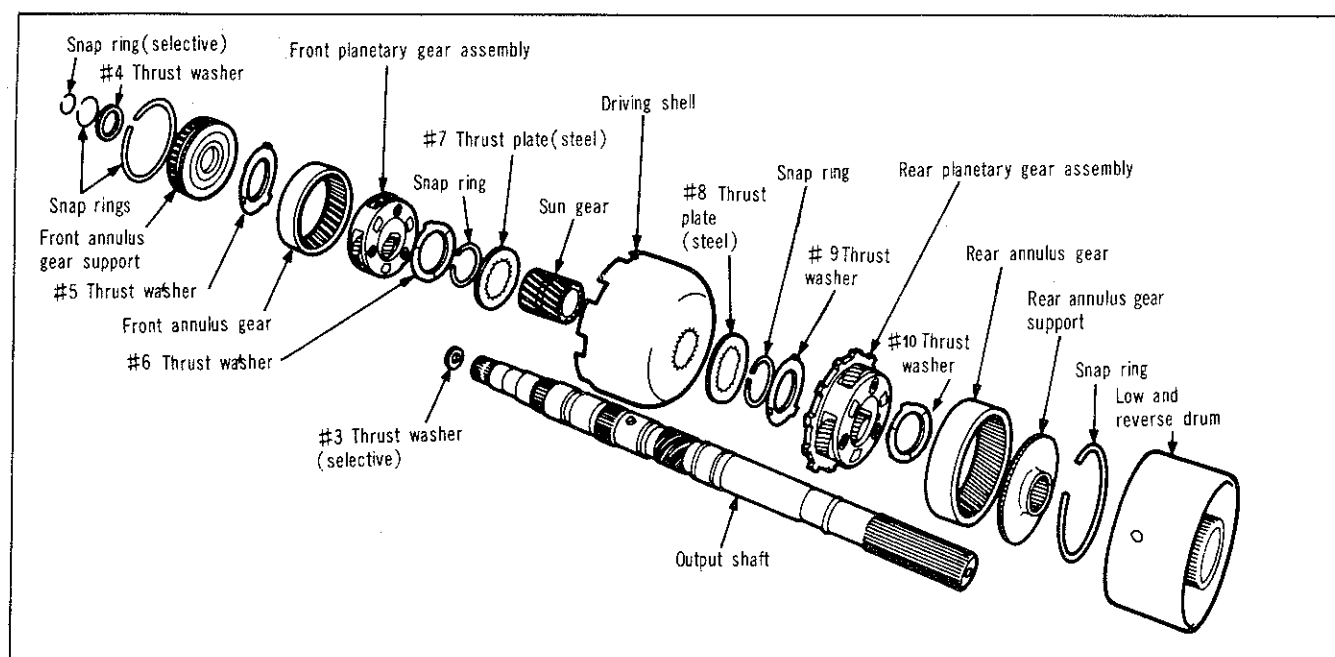

Fig. 56—Planetary gear train and output shaft disassembled
Measure end play of planetary gear assemblies, sun gear and driving shell before removing these parts from output shaft. With assembly in an upright position, push rear annulus gear support downward on the output shaft. Insert a feeler gauge between rear annulus gear support hub and shoulder on output shaft (Fig. 56). If clearance exceeds specifications, replace thrust washers and/or necessary parts.
- (1) Remove selective thrust washer No. 3 from forward end of output shaft (Fig. 56).
- (2) Remove selective snap ring from forward end of output shaft, then slide front planetary assembly off the shaft.
(3) Remove snap ring and thrust washer No. 4 from forward hub of front planetary gear assembly, slide front annulus gear and support off planetary gear set. Remove thrust washer No. 5 from front side of planetary gear set. Remove thrust washer No. 6 from rear side of planetary gear assembly. If necessary, remove snap ring from front of annulus gear to separate support from annulus gear.
(4) Slide sun gear, driving shell and rear planetary assembly off the output shaft.
(5) Lift sun gear and driving shell off rear planetary assembly. Remove snap ring and thrust plate No. 8 from sun gear (rear side of driving shell). Slide sun gear out of driving shell, and remove snap ring and thrust plate No. 7 from opposite end of sun gear if necessary.
(6) Remove thrust washer No. 9 from forward side of rear planetary assembly and remove planetary gear set from rear annulus gear. Remove thrust washer No. 10 from rear side of planetary assembly. If necessary, remove snap ring from rear of annulus gear to separate support from the annulus gear.
Refer to Fig. 56 for parts reference.
(1) Cut a 90 mm (3½") diameter hole in a bench, in the end of a small oil drum or a large wooden box strong enough to support transmission. Cut or file notches at edge of the 90 mm (3½") hole so output shaft support will fit and lay flat in the hole.
(2) Carefully insert output shaft into hole to support the transmission upright, with its weight resting on flange of the output shaft support.
(3) Apply a coat of grease to selective thrust washer (Fig. 56) and install washer on front end of the output shaft. If drive train end play was not within specifications (refer specifications for tolerance) when tested before disassembly, replace thrust washer with one of proper thickness.